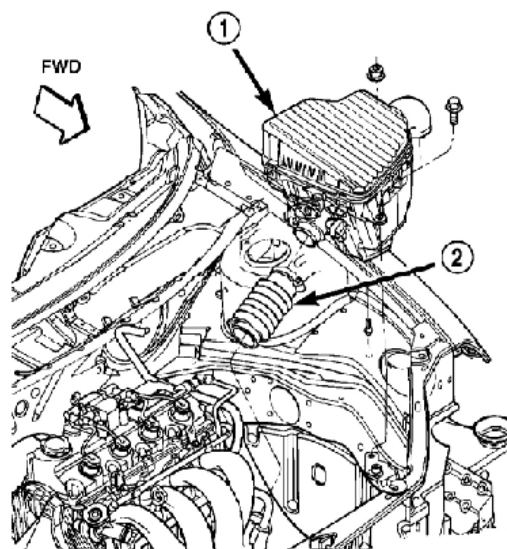

Figure 3-13 Disassembly and assembly of air cleaner assembly
(1) Remove the air cleaner assembly (Figure 3-13).